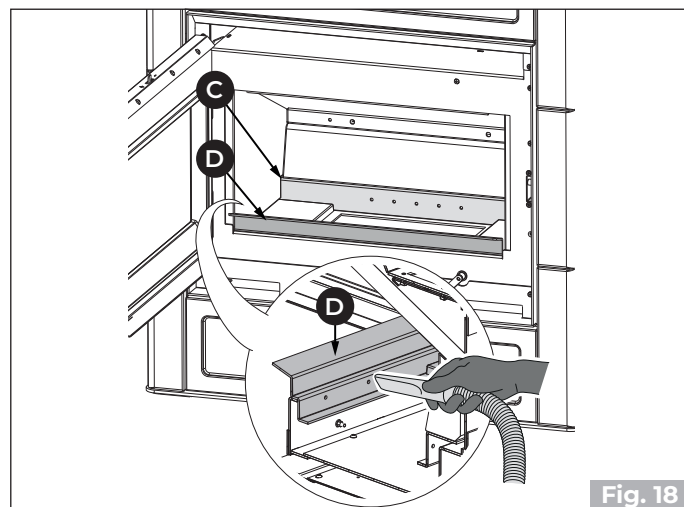

Fig. 18
- 3) Vacuum the rear (C) and front holes (D - if any) of the combustion air distributor in order to prevent ash from accumulating (Fig. 18).